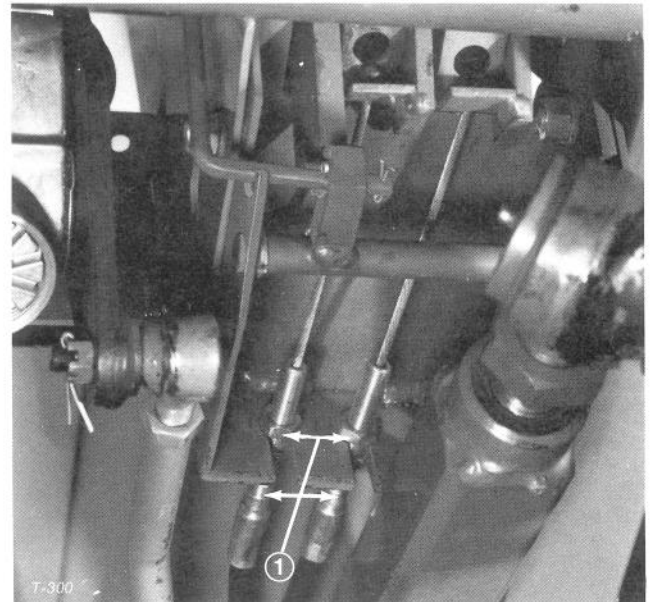

Figure 68
1. To reduce free travel of turn pedals — tighten the brakes — loosen front nut on threaded end of brake cable (Fig. 68). Then tighten rear nut to move cable backward until turn pedals have 1/2 to 1 inch (13 to 25 mm) of free travel. Tighten front nut after brakes are adjusted correctly.